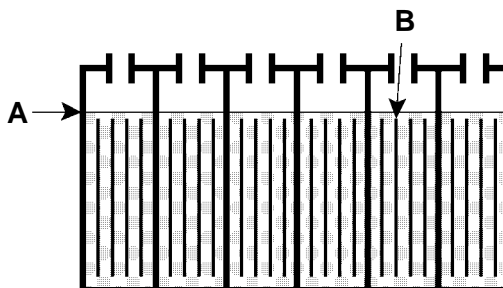

FIG. 15
4. Before charging batteries, check electrolyte level (A) in each battery cell. Do not charge batteries unless electrolyte is slightly covering battery plates (B). If battery plates (B) are exposed, add just enough distilled water to slightly cover plates, level (A). Never add acid to batteries. DO NOT overfill. Batteries can overflow during charging due to expansion. Replace cell caps before charging (Figure 15).